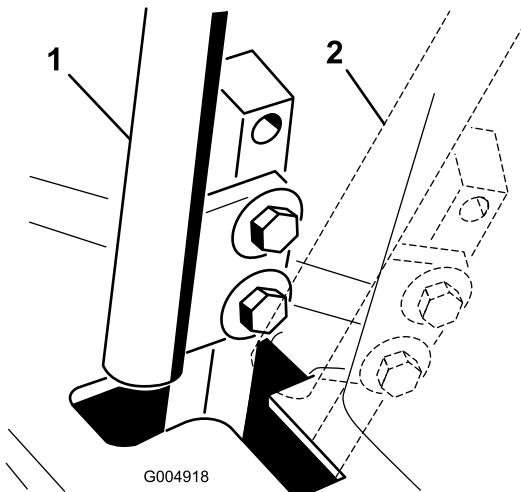

Figure 71
4. Move one of the levers to the neutral position but **not locked** (Figure 71).
6. Check where the control lever is relative to notch in console (Figure 71). It should be centered allowing lever to pivot outward to the neutral lock position.